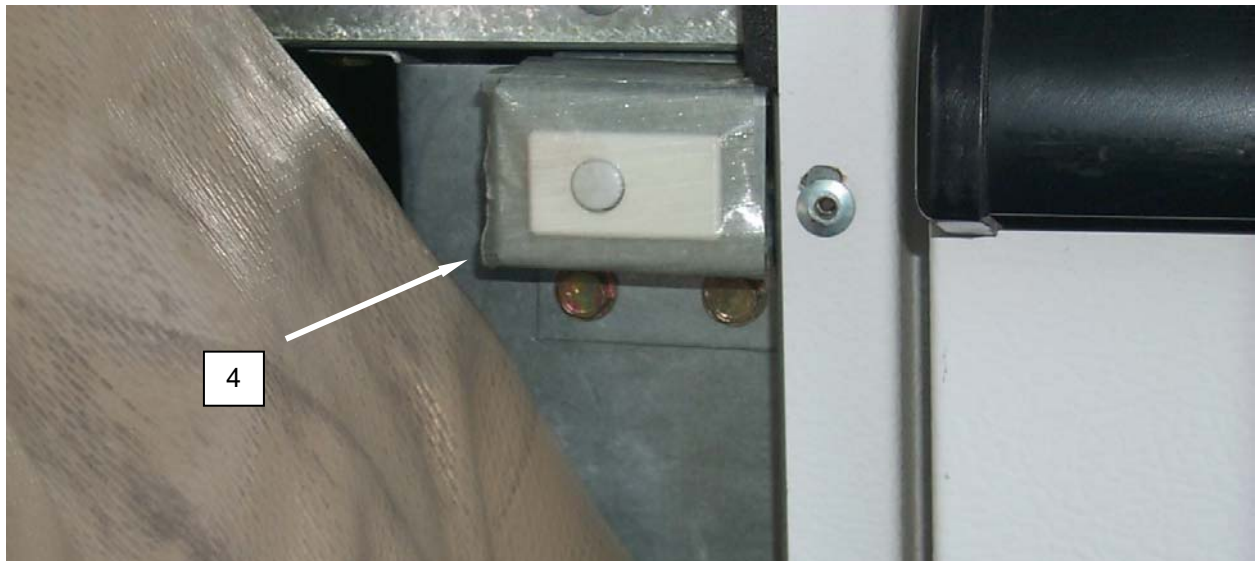

Figure 4. Tape the Switches for Full Packout.
8. Apply tape to the lint compartment switches (**Figure 4, Item 4**) on the dryers in order to prevent damage to the switch plungers.